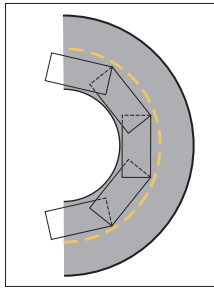

FIGURE 3: Cutting and overlapping GlasGrid around a curve
- On curves with tight radii, cut the GlasGrid product in short sections to reduce or eliminate ripples (Figure 3).